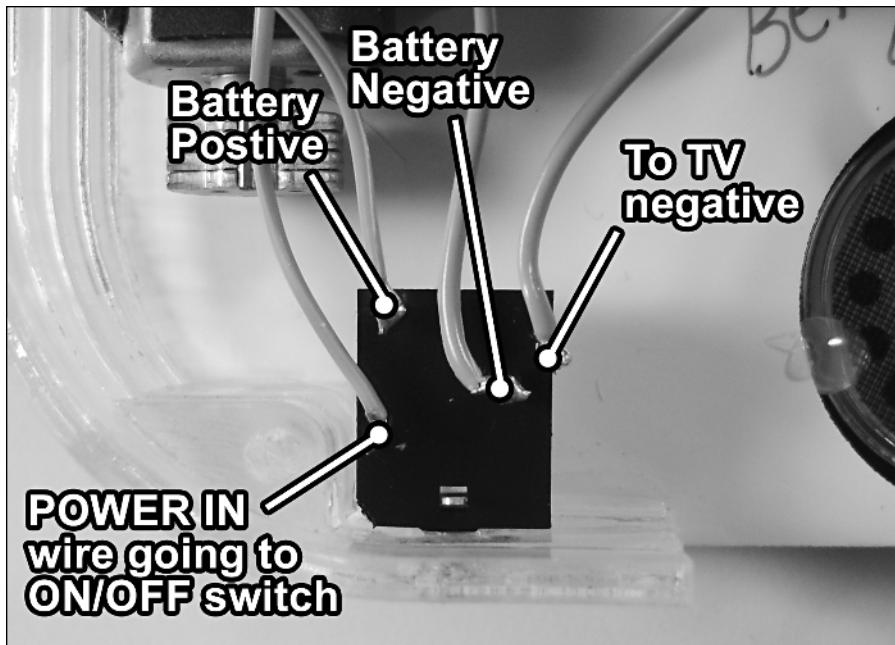

FIGURE 14-21: The DC AUX INPUT jack, with wires attached.
1. Connect the positive and negative battery wires to the DC AUX INPUT phono jack as shown in Figure 14-21 below.